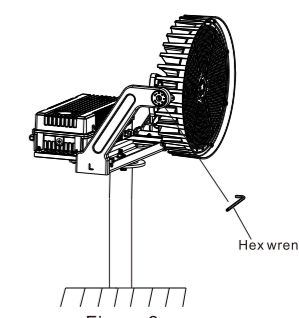

Figure 8
2. Use hex wrench to loosen the adjusting screw for adjusting the angle (Figure 8);